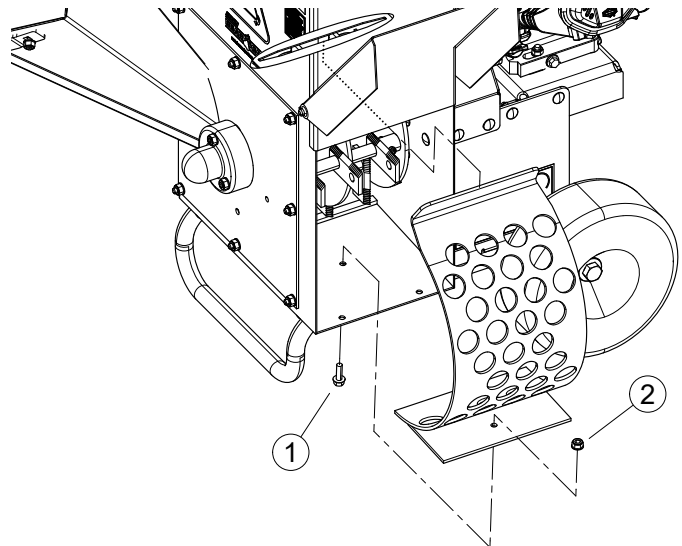

Figure 5.8, Changing the Discharge Screen
3. Remove the 5/16 x 1" bolt (1) and flange nut (2) securing the discharge screen to the frame (Figure 5.8). Pull discharge screen out from the bottom and rotate the top downward to remove.